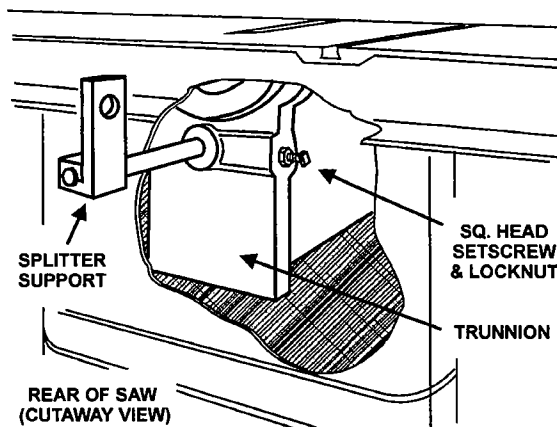

FIGURE 1
1. Insert the grooved end of the splitter support shaft through slot in rear of saw and into hole in trunnion, Figure 1. Make sure the square head setscrew is backed out enough to allow easy insertion.
2. With a wrench, tighten sq. hd. setscrew into the groove of the shaft as shown in Figure 1. (NOTE: The groove will be in the proper position